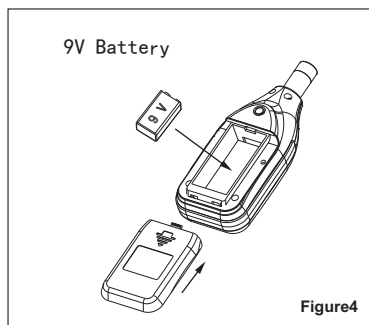

Figure4
3. When Low battery mark " " appears, please replaced with a new 9V battery. (Figure 4)